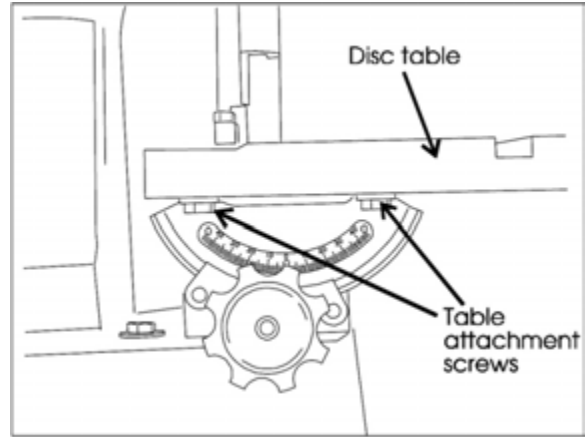

Figure 3: Table attachment screws – loosen to adjust miter groove parallelism
5. Adjust the table by loosening the four attachment screws under the table, then move the table until the distance between the miter slot and the disc is equal on both sides (See Figure 3).